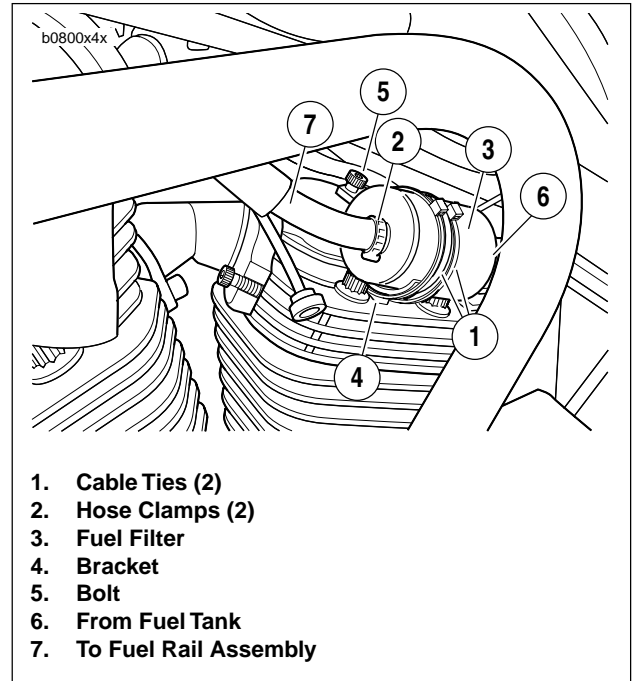

Figure 4-88. In-line Fuel Filter
See Figure 4-88. There is a replaceable inline fuel filter between the fuel pump outlet at the fuel tank and the fuel rail assembly.
2. See Figure 4-88. Cut two cable ties that secure fuel filter to bracket.
4. See Figure 4-88. Remove hose clamps from both sides to detach filter.